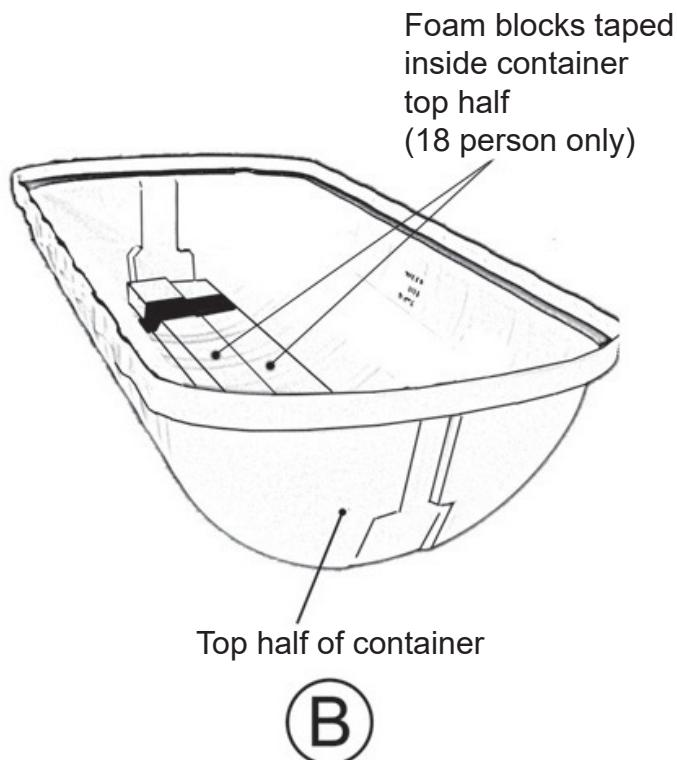

FIGURE A9-1A
- 1.1 The container seal, fitted to the top container half, must be replaced at every service. Use grey self adhesive foam strip. Refer to FIGURE A9-1A.